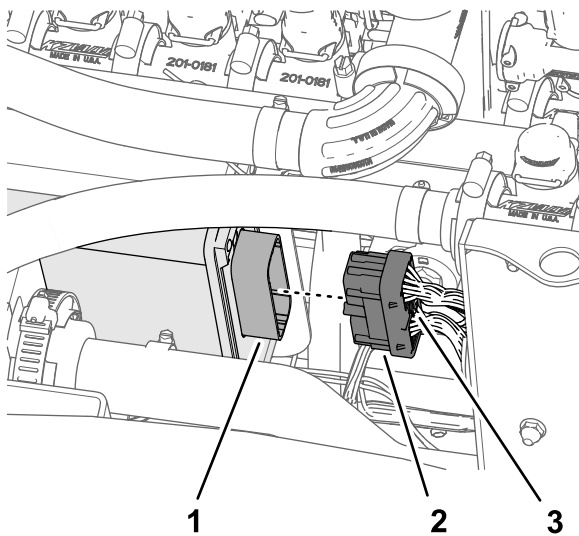

Figure 133
2. Insert the 40-socket connector of the 102 cm (40 inch) branch of the kit wire harness into the 40-pin connector if the ASC 10 spray controller (Figure 133).
3. Thread the thumb screw of the 40-socket connector into the ASC 10 connector by hand (Figure 133).